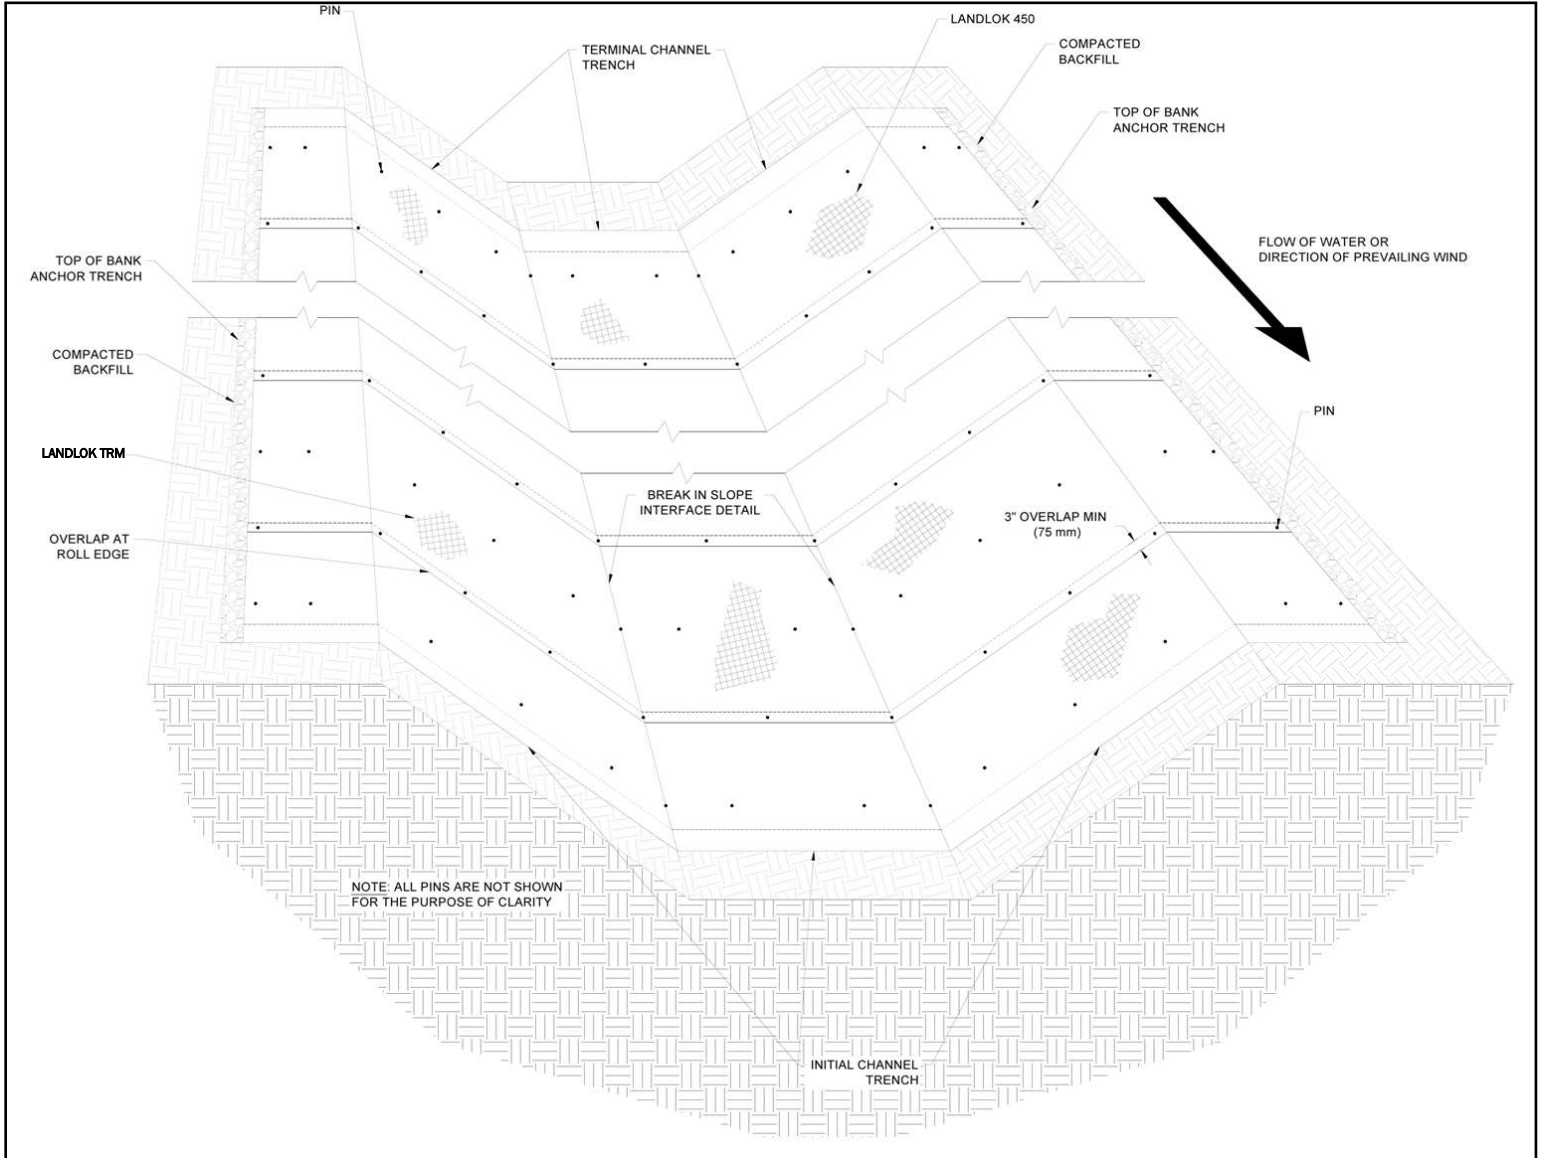

Figure 21: Completed Channel Isometric View
15. At a minimum, LANDLOK panels should be pinned entirely across the channel surface, pins should be installed in the trenches, and the trenches should be backfilled and compacted at the end of each day to minimize rework in the case of a major rain event. Specific project conditions may warrant further evaluation of installation order for ease. An example isometric view (Figure 21) of a channel armored with LANDLOK can be seen below for overall reference. Consult Propex Engineering Services at 800.621.1273 with any questions that you may have.